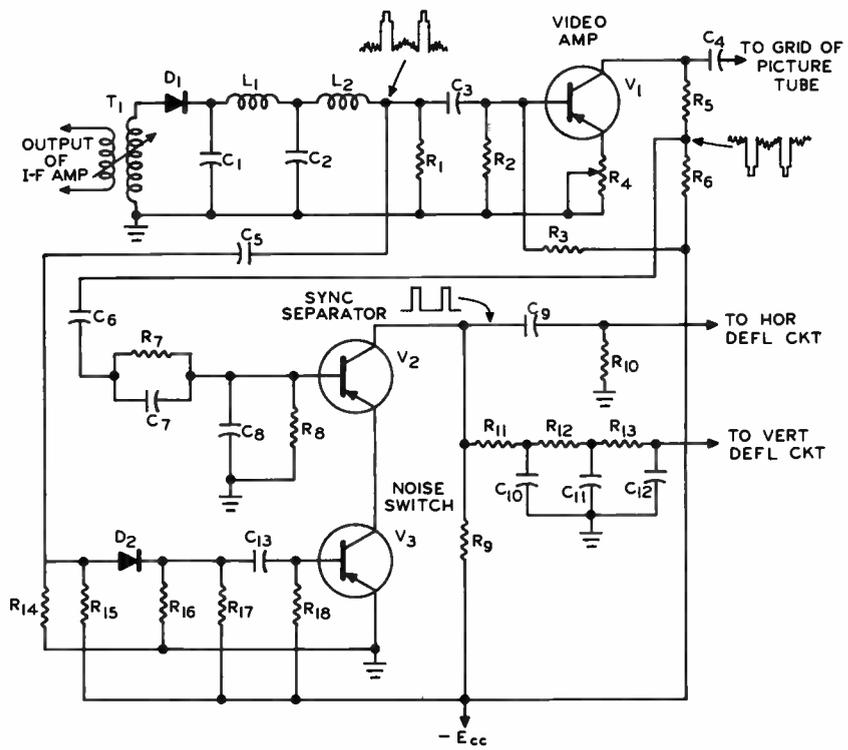

FIGURE 5
5. In the circuit of Figure 5,  $V_3$  is cut off only when a ..... occurs.
5. In the circuit of Figure 5,  $V_3$  is cut off only when a **noise pulse** occurs.
In the circuit of Figure 5, the  $V_3$  stage conducts only (A) during high amplitude noise pulses. (B) when no high amplitude noise pulses are present. (C) during the vertical sync pulses. (D) during the horizontal sync pulses.
In the circuit of Figure 5, the  $V_2$  sync separator stage and the  $V_3$  noise switch (A) both function as sync separators. (B) are effectively connected in parallel. (C) are effectively connected in series. (D) conduct at different times.